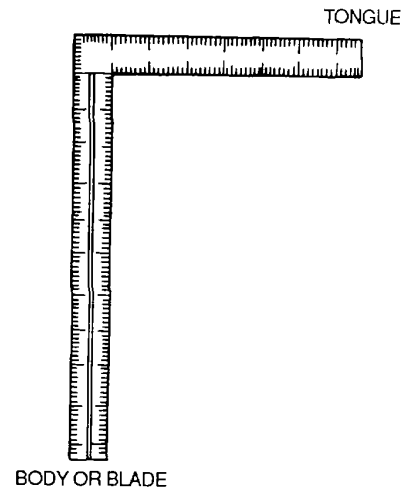

Figure 3-10. Carpenter's Square
(1) *Carpenter's square*. The carpenter's square, shown in figure 3-10, is made up of two parts: the body or blade, and the tongue. It has inches divided into eighths, tenths, twelfths, and sixteenths.